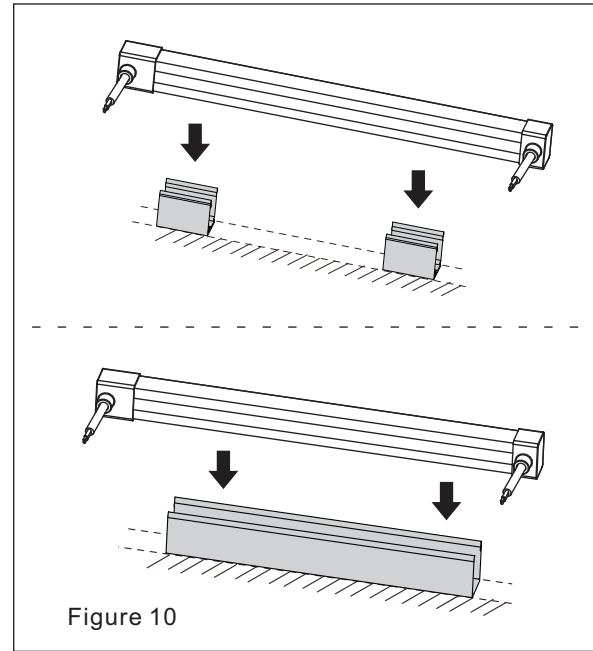

Figure 10
(10) Install the strip in the clip or carrier as Figure 10: